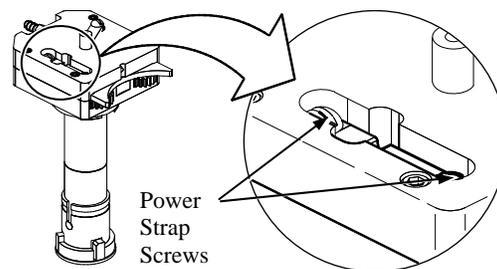

Figure 29 Inspecting the Power Strap Screws
11. Verify that the two power strap screws are tight. See Figure 29.